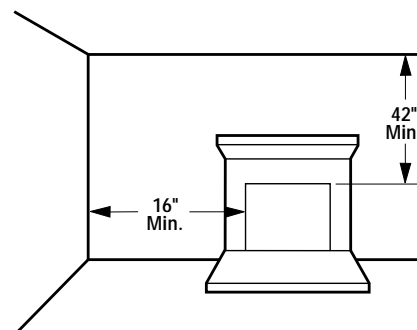

Figure 1
Note: Illustrations shown in this manual reflect "typical" installations with nominal dimensions and are for reference only. Actual installations may vary due to individual design preferences. However, always maintain minimum clearances to combustible materials and do not violate any specific installation requirements. Refer to Figures 1 through 7 for clearances.
Ensure the minimum clearances shown in Figures 1 through 7 are maintained. Left and right clearances are determined when facing the front of the heater.
Step 1. Sidewall Clearances: The sides of the fireplace opening must be at least 16" from any combustible side wall (Figure 1).
Step 2. Ceiling Clearance: The ceiling must be at least 42" from the top of the heater opening (Figure 1).